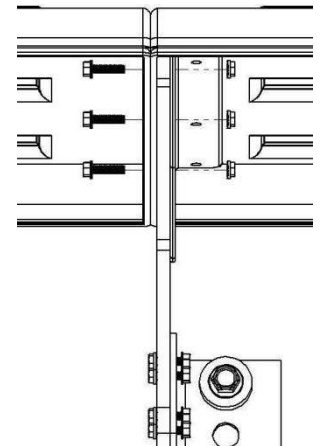

Figure 12
B. Install center bracket as close to where the fenders join together as possible (Figure 12).